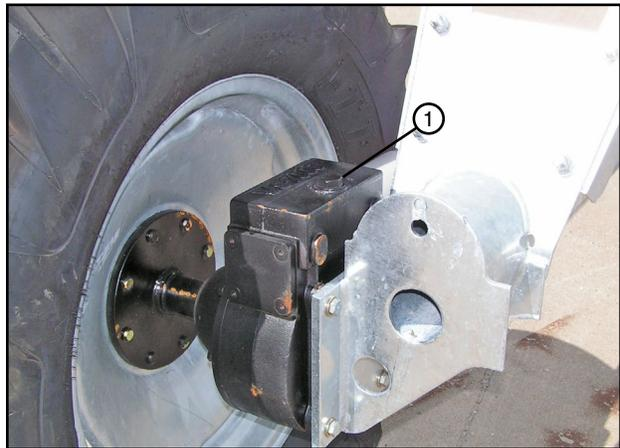

Figure 54-2 1. Fill Plug
3. Clean all of the dirt away from the fill plug. See figure 54-2.